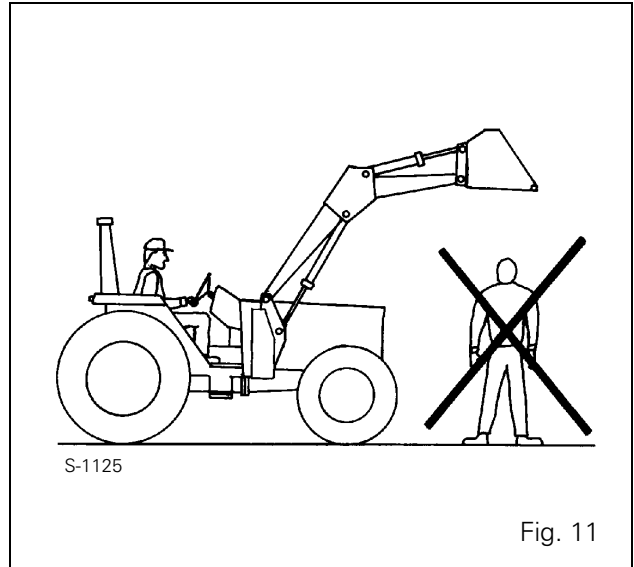

Fig. 11
- Keep others away from the working area. **DO NOT ALLOW** others to stand beside or walk beneath a raised implement (Fig. 11).